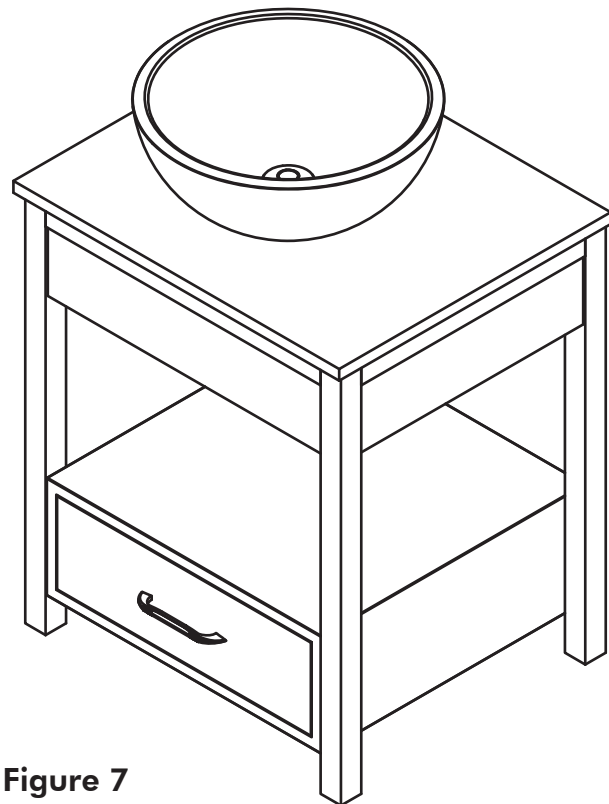

Figure 7
- Refer to figure 7 for finished vanity.